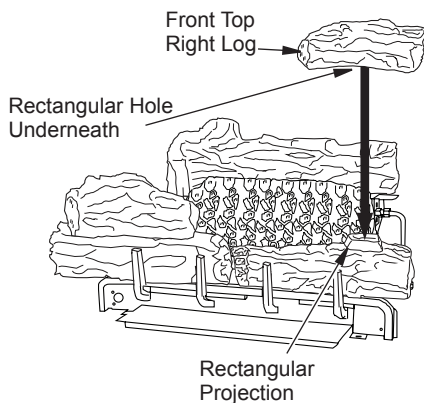

Figure 33 - Installing Top Right Front Log
6. Place top right front log onto front right log. Match the rectangular projection on top of the front right log with the rectangular hole on the bottom of the top right front log as shown in Figure 33. The top right front log will rest on top of the front right log.